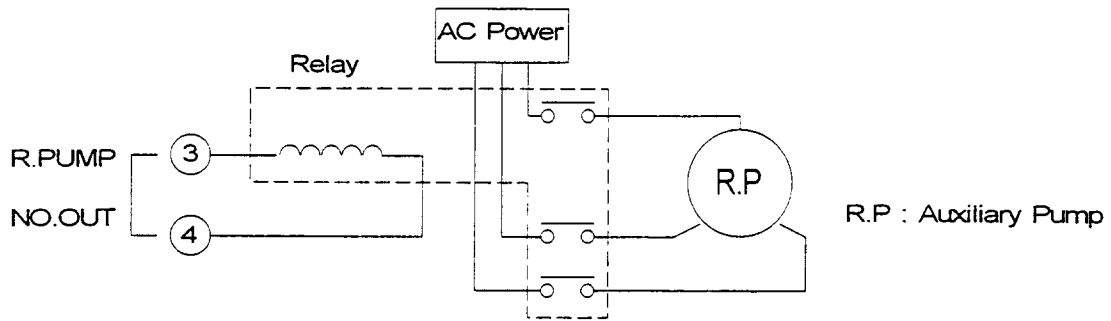

Figure 8.2 Example of Connecting I/O TB2 R. Pump Terminal
⑳ AC.POWER ⑱ <div style="border: 1px solid black; padding: 5px; width: fit-content; margin: 0 auto;"> N1 IN L1 </div>	Terminal for inputting power for driving the baking heater, auxiliary pump and air cooling unit. The voltage input to this terminal is output to the specified terminal block through operation of the STP pump.
② HEATER ① <div style="border: 1px solid black; padding: 5px; width: fit-content; margin: 0 auto;"> N.O OUT </div>	Terminal for connecting the baking heater. In either case of the following two types of operation under the NORMAL OPERATION state, voltage input to the AC power terminal (⑱—⑳) is output to this terminal. 1) Turn ON the HEATING switch on the front panel through MANUAL Operation . 2) Short the circuit between I/O TB3 HEATING terminal ②—④ through REMOTE Operation (See Section 7.3.2, "Interlocking the STP Pump Operation with Baking").
④ R.PUMP ③ <div style="border: 1px solid black; padding: 5px; width: fit-content; margin: 0 auto;"> N.O OUT </div>	Terminal for starting the auxiliary pump. The voltage input to the AC. POWER terminal (⑱—⑳) is output to this terminal through the STP pump rotation. DO NOT connect the auxiliary pump directly. Use separate power and a relay. Use another power and a relay. See Figure 8.2. <div style="display: flex; align-items: center;"> <div style="border: 2px solid black; padding: 5px; margin-right: 10px;"> NOTICE </div> <p>If the I/O TB3 (①—③) is opened, it is diagnosed as abnormal auxiliary pump, the "FAILURE" lamp lights and the power is cut OFF.</p> </div>